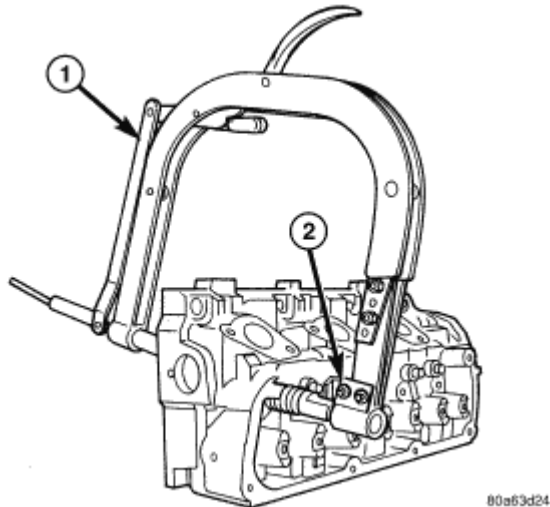

Fig. 93: Identifying Spring Compressor & Adapter
1. With cylinder head removed, compress valve springs using Valve Spring Compressor Tool C-3422-D with adapter 8464. See Fig. 93.